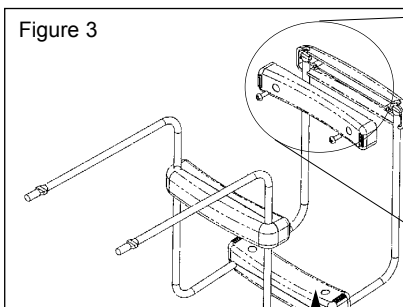

Figure 3
2. To assemble the Exit Tray, you will need a #2 Philips screwdriver, the 2 Metal Brackets, and the (3) Exit Tray Connector Sets (each set contains one top plastic piece, one bottom plastic piece, and two screws). Assemble each Exit Tray Connector Set onto the Metal Brackets as shown in Figure 3.